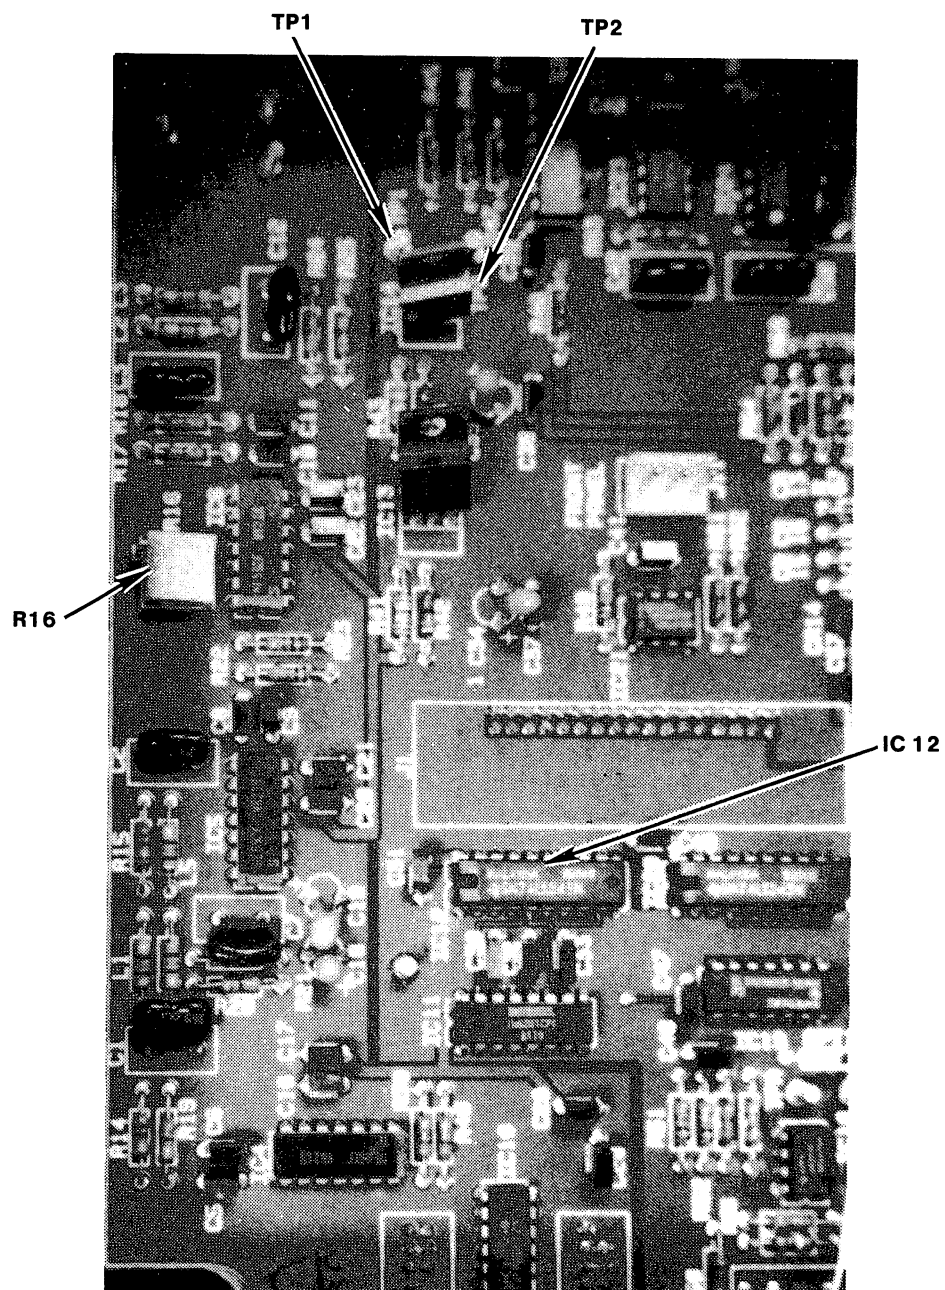

Figure 5-10 Portion of Control/Read/Write Board
- a. Connect channel 1 probe of a dual trace oscilloscope to the write data input. A convenient location would be J1-4 on the Control/Read/Write board, or IC12, pin 17 on the same board (see Figure 5-10). Trigger the scope on channel 1 and select 2 msec/cm time constant and 2V/div. vertical amplitude.
- c. Connect the oscilloscope probes to test points 1 and 2 (see Figure 5-10) on the Control/Read/Write PC board located on the bottom of the unit.
- d. Adjust potentiometer R16 (see Figure 5-10) on the Control/Read/Write PC board until displayed voltage measures 3V peak to peak (individual channels should read 1.5V). NOTE: On some units it may be necessary to remove the tape drive from the Wang chassis (keeping power connected) to access R16.